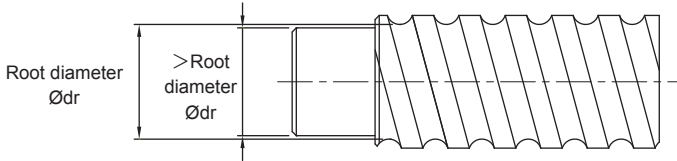

Fig 1.10.4 For Internal Circulation
(1) For the Ball Screws with internal or end cap type circulation ball nut, it is required to have at least one end with complete thread to the end of screw, it is also required to have the journal area is with diameter to be smaller than the diameter of thread root as Fig 1.10.4 shown.